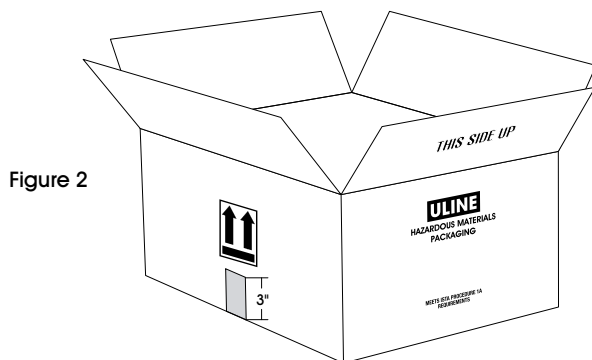

Figure 2
2. Seal bottom of carton down the center seam with one strip of 2" wide (2 mil) polypropylene tape (Uline Model # S-472). The tape must extend 3" over each end of the carton. (See Figure 2)